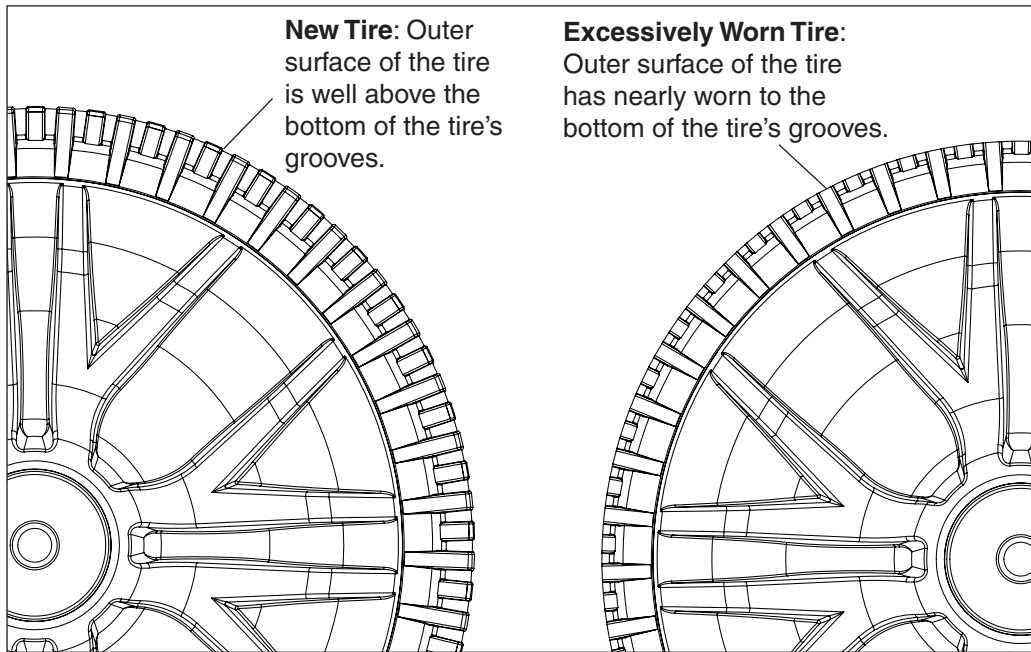

Figure 18
- The tires are not excessively worn. See **Figure 18** on the next page.
After prolonged use it may become necessary to replace the cleaner's rubber tires. When the tire surface has worn into the tire's grooves the tire is in need of replacement. See **Figure 18**.